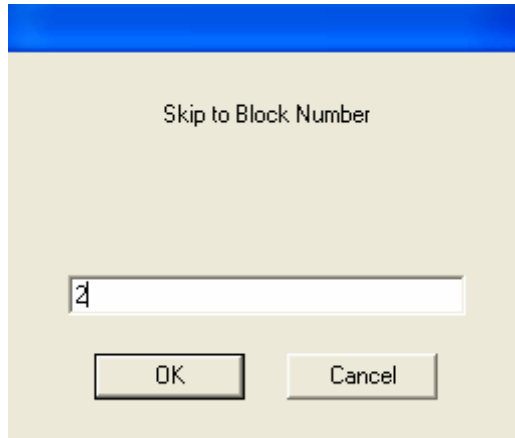

Figure 88: Block Number selection for Tape Merge
5. Skip block: To position an input tape unit at a particular block within the current file, press the button in the block column that is on the row of the unit to be positioned. APS will prompt the user for the number of the block to position at and then perform the task. This prompt is shown in Figure 88: Block Number selection for Tape Merge.